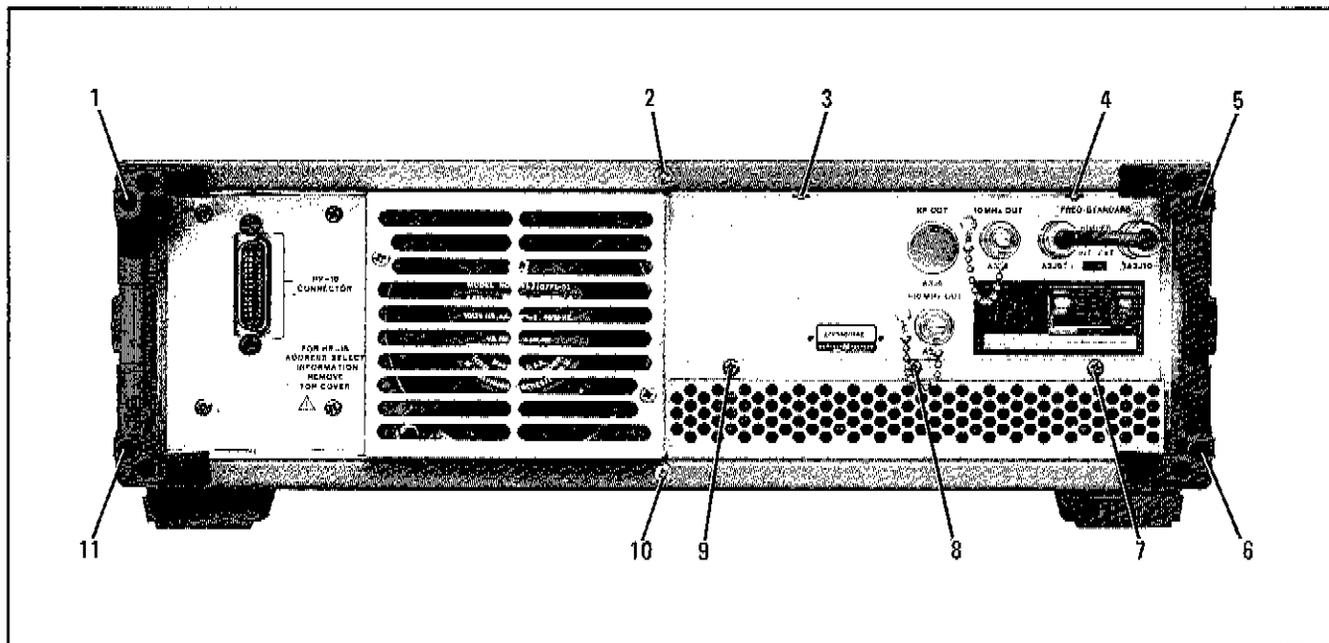

Figure 8-2. Rear Panel of the Synthesizer
- a. Remove the two plastic feet from the rear of the top cover by removing the Pozidriv screw from each foot (see Figure 8-2).
- b. Unscrew the Pozidriv screw at the middle of the rear edge of the top cover (see Figure 8-2). This is a captive screw and will cause the top cover to pull away from the front frame. Captive screw part number HP 0570-1171; clip part number HP 0510-0043.
- b. Remove the two plastic feet from the rear of the bottom cover by removing the Pozidriv screw from each foot (see Figure 8-2).
c. Unscrew the Pozidriv screw at the middle of the rear edge of the bottom cover (See Figure 8-2). This is a captive screw and will cause the front edge of the bottom cover to pull away from the front frame. Captive screw part number HP 0570-1171; clip part number HP 0510-0043.
- b. Remove the two Pozidriv screws from the top of the rear frame and the three screws from over the heat sink (see Figure 8-2).